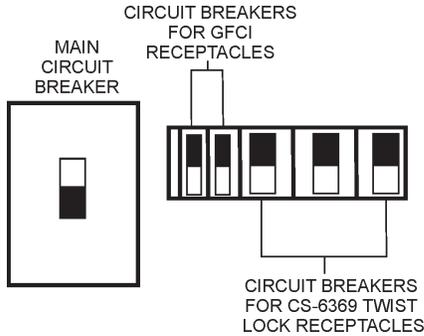

Figure 69. Main, Aux. and GFCI Circuit Breakers (OFF)
1. Place both the **MAIN, GFCI** and **LOAD** circuit breakers (Figure 69) to the "OFF" position".